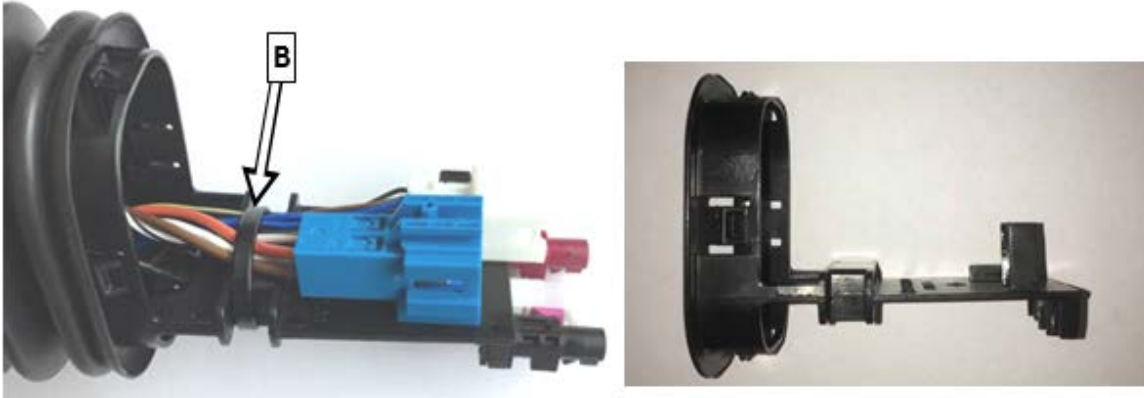

Figure 5
1. Disconnect plugs and remove cable tie (**B, figure 5**) from retaining frame then remove retaining frame from the door wiring grommet.